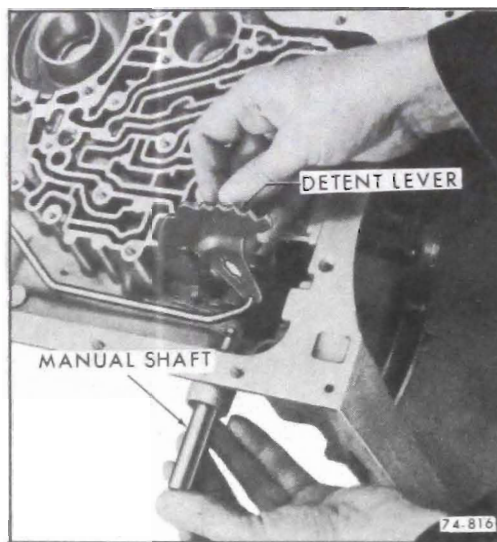

Figure 76-767
4. Install the manual shaft through the case and detent lever. See Figure 76-767.